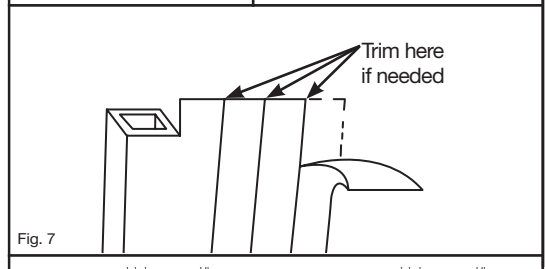

Fig. 6
- 7 Lift bottom of sliding screen panel and place lower rollers onto the roller guide ridge inside the patio door track.** The rollers contain springs so they can be compressed during installation. Position a putty knife under each wheel to help lift it over the frame sill and place it on the roller guide ridge inside the track (Fig. 6).